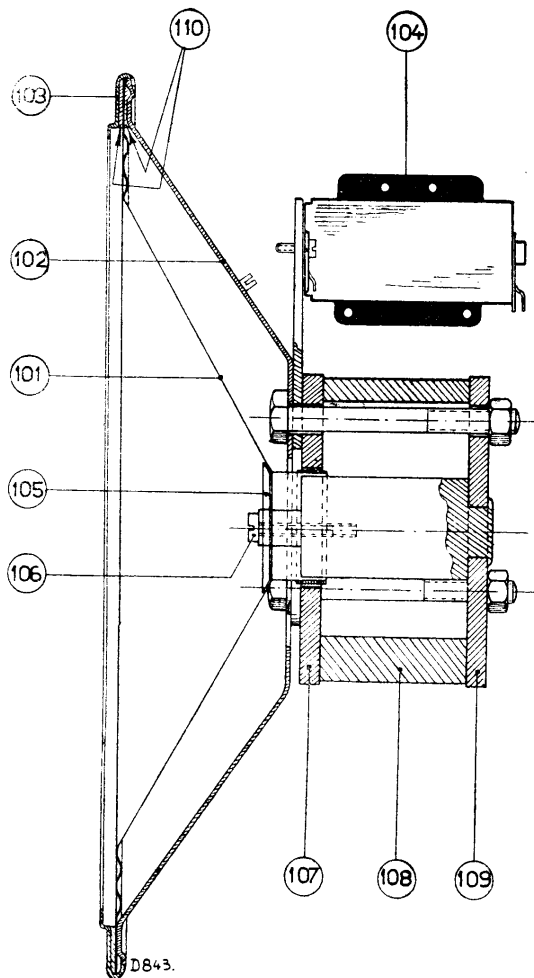

Fig. 6.
2. Under no circumstances should the front and rear plates (item 107 and 109, Fig. 6) be removed from the magnet, as this would impair its magnetism (as also would be the case when working on an iron bench).